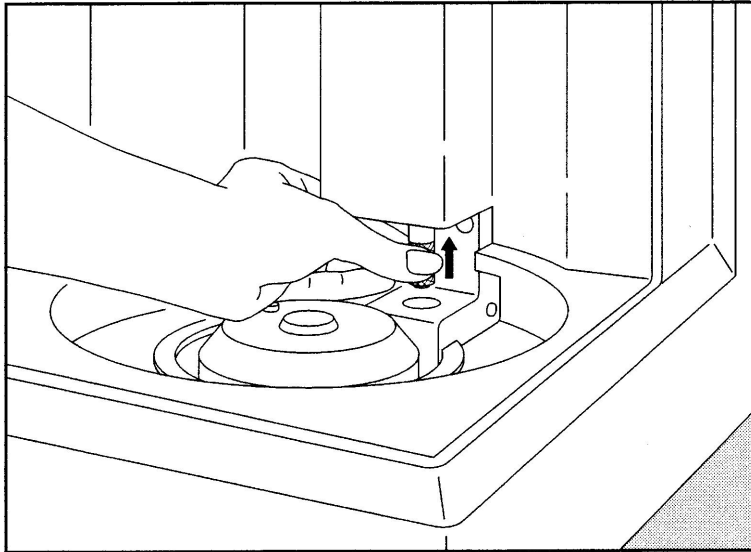

Figure 4. Inserting the T-5699 Tool to remove the upper jaw seal
6. Insert the T-5699 Tool into the upper jaw seal (Figure 4).